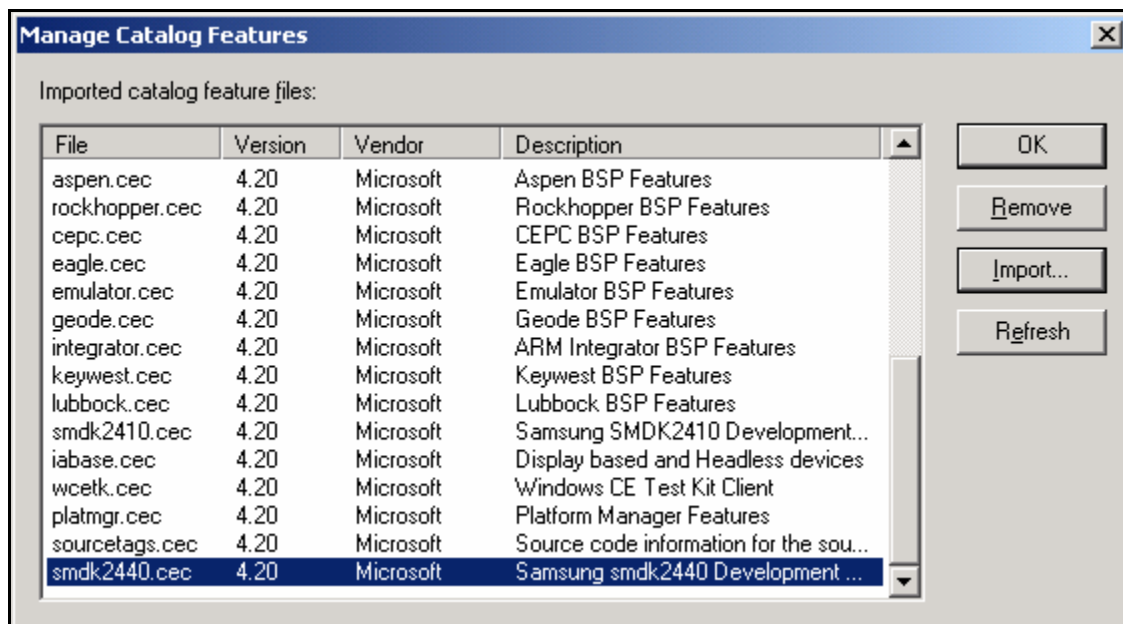

Figure 1-5 Manage Catalog Features Window After Adding smdk2440.cec File
5. Now you can see the **smdk2440.cec** file added to the **Imported catalog feature files** list in the **Manage Catalog Features** windows as shown below in the figure 1-5. Please click on the 'OK' button and then on the 'Refresh' button.